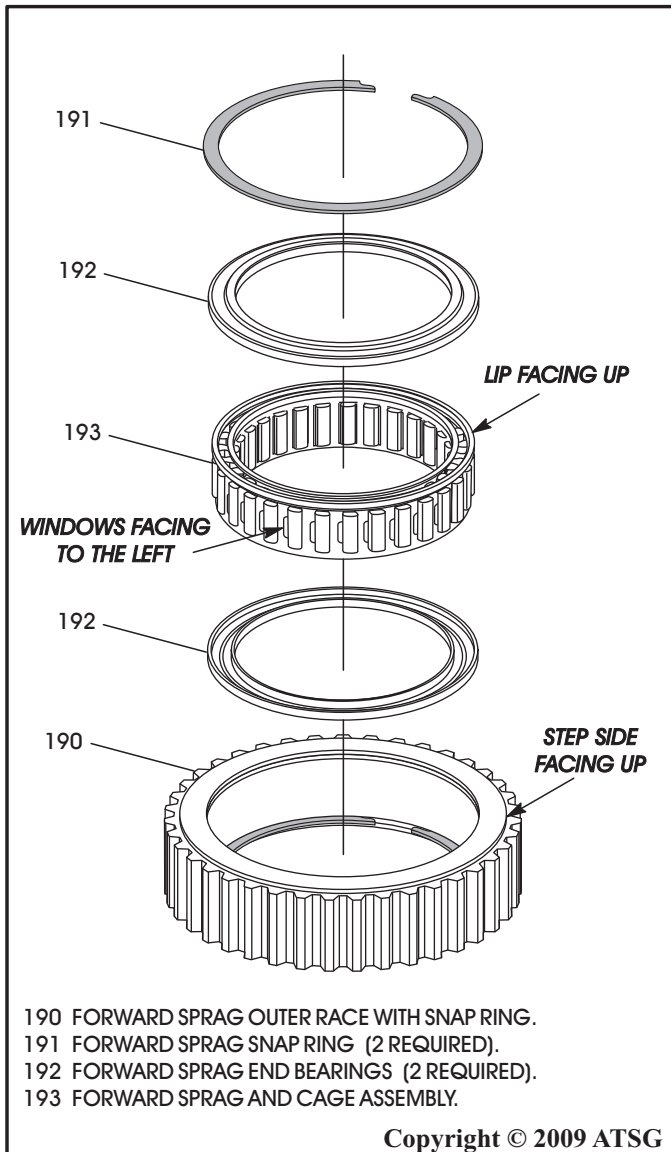

Figure 157
6. Turn the outer race over so the "step" side is facing up, as shown in Figure 157.
7. Install 1st of the end bearings with the "step" facing down, as shown in Figure 157.
8. Install the forward sprag and cage assembly, as shown in Figure 157.
- Note:** Install with the "lip" facing up and the "windows" facing to the left, as shown in Figure 157.
9. Install the last of the end bearings with "step" facing up, as shown in Figure 157.
10. Install the last snap ring into the groove in the outer race, as shown in Figure 157.